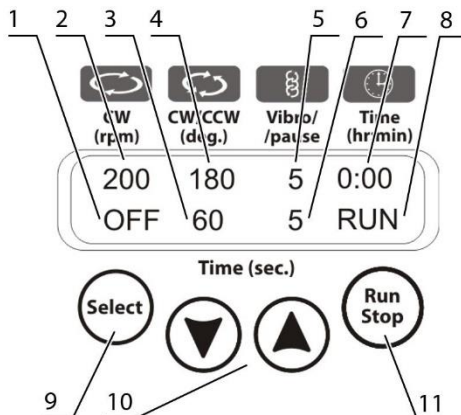

Figure 2. Control panel
- Upper line: rotation speed (fig. 2/2), reciprocation angle (fig. 2/4), vibration angle (fig. 2/5), overall timer (fig. 2/7);
- Lower line: rotation, reciprocation and vibro timers (fig. 2/1, 2/3 and 2/6), status (STOP, fig. 2/8).
- 5.5. Press the **Run Stop** key (fig. 2/11) to start the program.
- 5.6. The stirrer motion will begin and the corresponding indication, RUN (fig. 2/8) and the changing time values (fig. 2/1, 2/3, 2/6 and 2/7) are be shown on the display.
- 5.7. If the overall operation time is not set and the Time indicator (fig. 2/7) shows 0:00, pressing the **Run Stop** key will start continuous operation of the unit until the Run Stop key is pressed again.
- 5.8. If the operation time is set then the unit will stop after the set time interval elapses. Flashing indication STOP (fig. 2/8) is shown on the display and a repeating sound signal for the end of operation is heard. Press the **Run Stop** key to stop the signal.